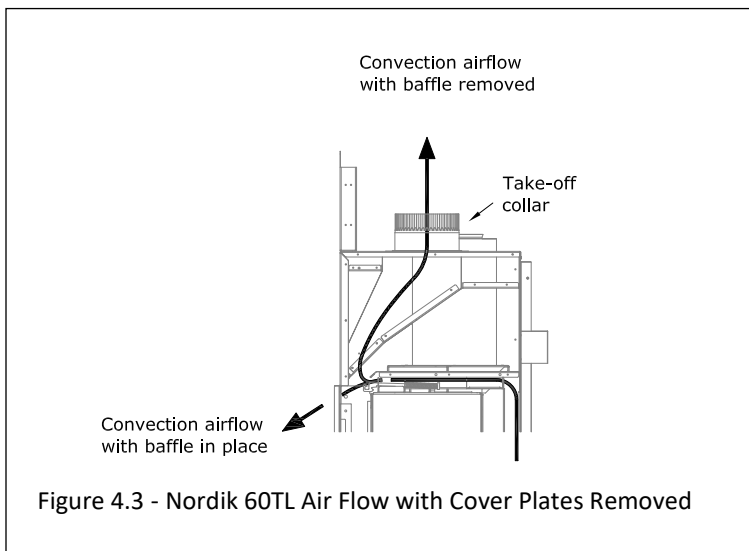

Figure 4.3 - Nordik 60TL Air Flow with Cover Plates Removed
3. Locate the (2) convection baffles as shown in Figure 4.3. There are (2) screws that secure each convection baffle. Remove the screws and convection baffles from the fireplace. Discard the screws and convection baffles.